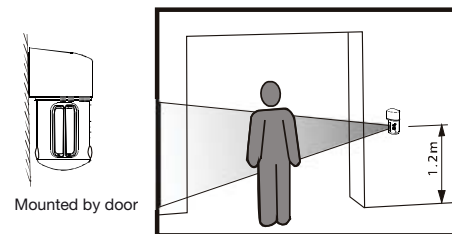

Fig. 7
5. At the side of a doorway. Optimal height is 1,2 metres. Fig. 7